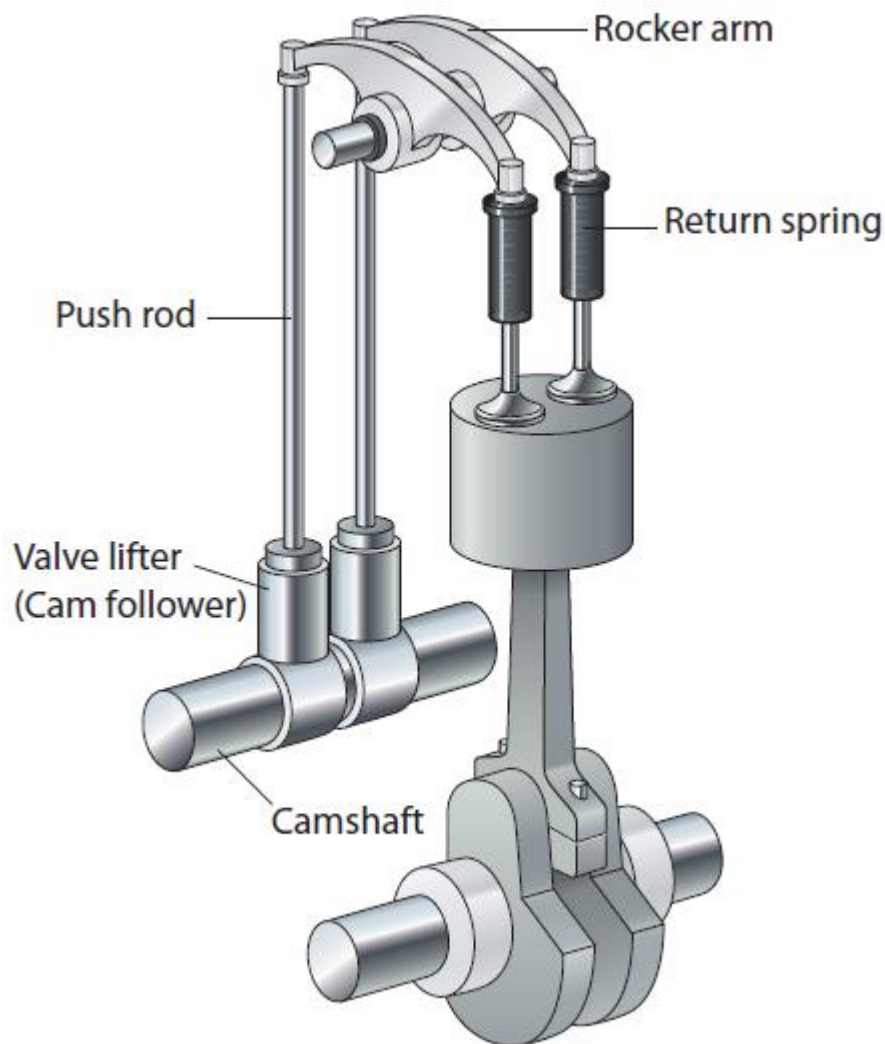

Fig 4
- Turn the engine until both tappets of one cylinder are in the "rocking" position and the piston at top dead centre (TDC). (See Fig. 4).
- Figures 4 show the stroke relationship to the tappet and valve positions.